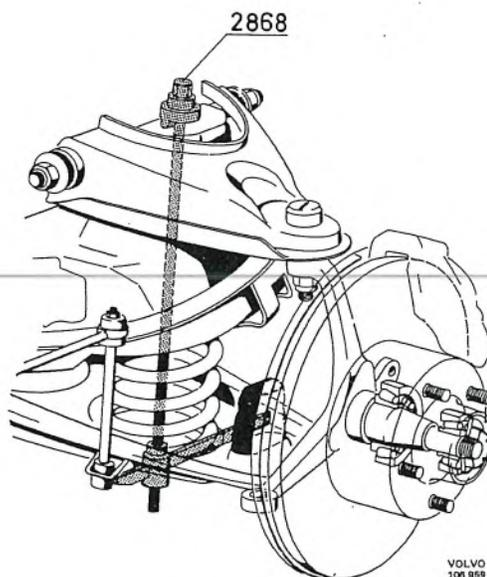

Fig. 6-15. Compressing spring
After the shock absorber has been removed, place tool 2868 as shown in Fig. 6-15. Compress the spring by screwing the spindle in until there is
8. Connect the brake lines as shown in Fig. 6-15.